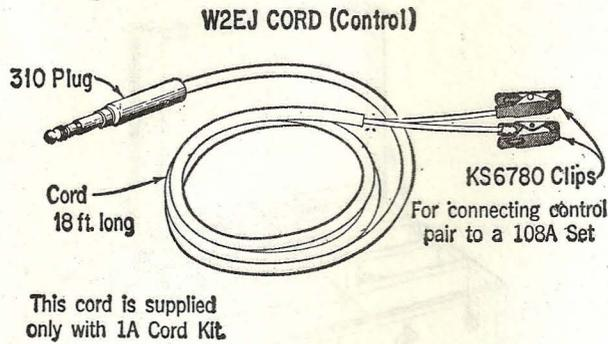

Fig. 5
4.03 W2EJ Cord: This cord is illustrated in Fig. 5.